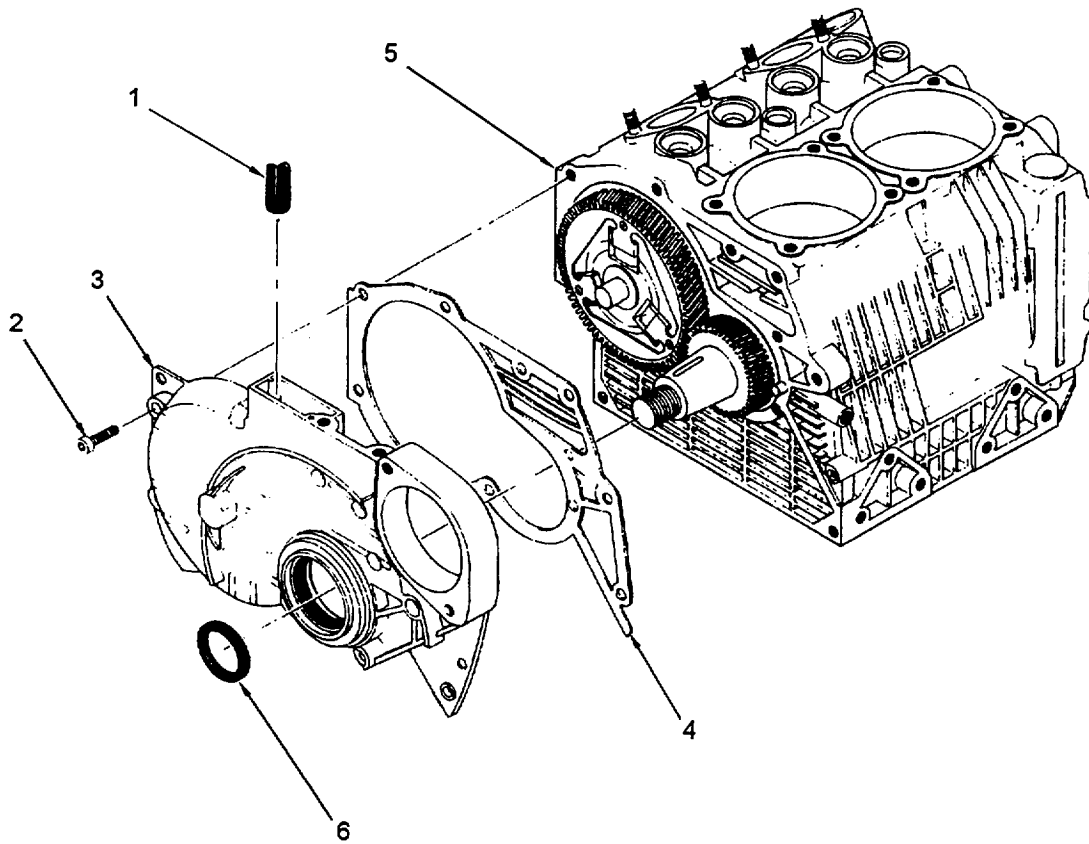

Figure 6-14. Timing Cover Removal
- c. Remove the oil pump cover (3) with inner rotor (4), outer rotor (5) and O-ring (6). Discard O-ring (6). Wipe rotors (4 and 5) and cover (3) clean.
- d. Lay the oil pump cover (3) on a flat surface with the rotors (4 and 5) facing up. Measure the clearance (A) between the outer rotor and the cover mating surface. The rotor must be 0.010-0.024 in. (0.27-0.60 mm) below the mating edge of the oil pump cover. If measurement is out of tolerance, replace the rotor.
- e. Remove rotors (4 and 5) from oil pump cover (3). Make the following measurements for wear. If any measurement is out of tolerance, replace the rotor(s).
- (1) Measurement B (Inner Rotor Diameter): 1.167-1.172 in. (29.65-29.77 mm)
- (2) Measurement C (Outer Rotor Diameter): 1.592-1.597 in. (40.45-40.58 mm)
- (3) Measurement D (Outer Rotor Inside Diameter): 1.182-1.185 in. (30.03-30.1 mm)
- (4) Measurement E (Rotor Thickness - Both Rotors): 0.704-0.706 in. (17.89-17.94 mm)
6.3.14 Remove Timing (Pulley End) Cover. (Refer to figure 6-14.)